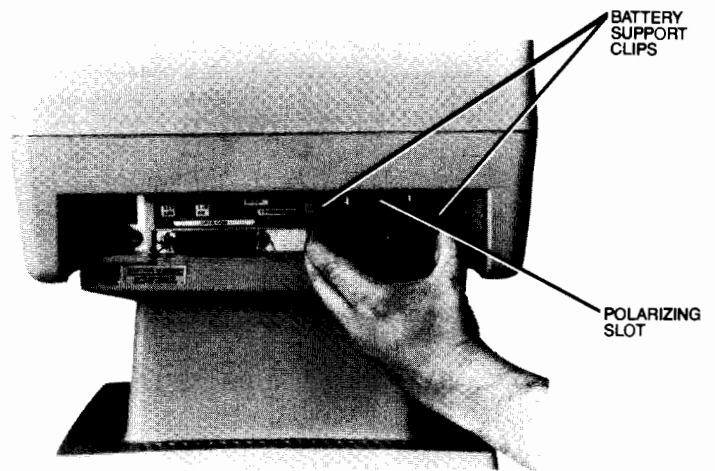

Figure 4-1. Battery Removal
2. To remove the battery from the terminal, compress and pull down on the two battery support clips (figure 4-1) located above the KYBD connector at the rear of the terminal.
5. Insert the battery support in the terminal, with the polarizing slot (figure 4-1) facing out, until each end of the battery support clicks into place.